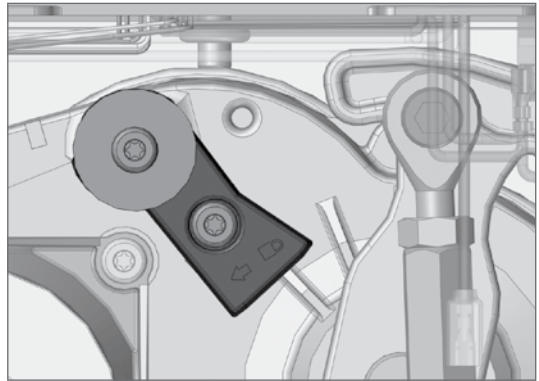

FIGURE 58. LOCK MODE POSITION (TOP)
- For a right-hand boom to be placed in Lock Mode in the lowered position, position the top stopper as shown in Figure 58 (similarly for the left-hand raised locked position)